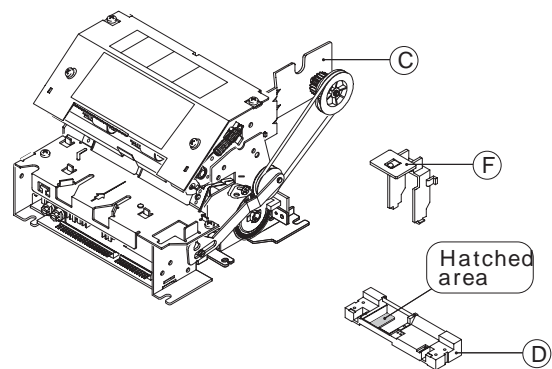

Figure 4-5. Stamp Pusher Position
3. Position the Upper Frame Assembly, C, on the Lower Frame Assembly, I, and replace the four screws (c) (see Figure 4-5, to the right).